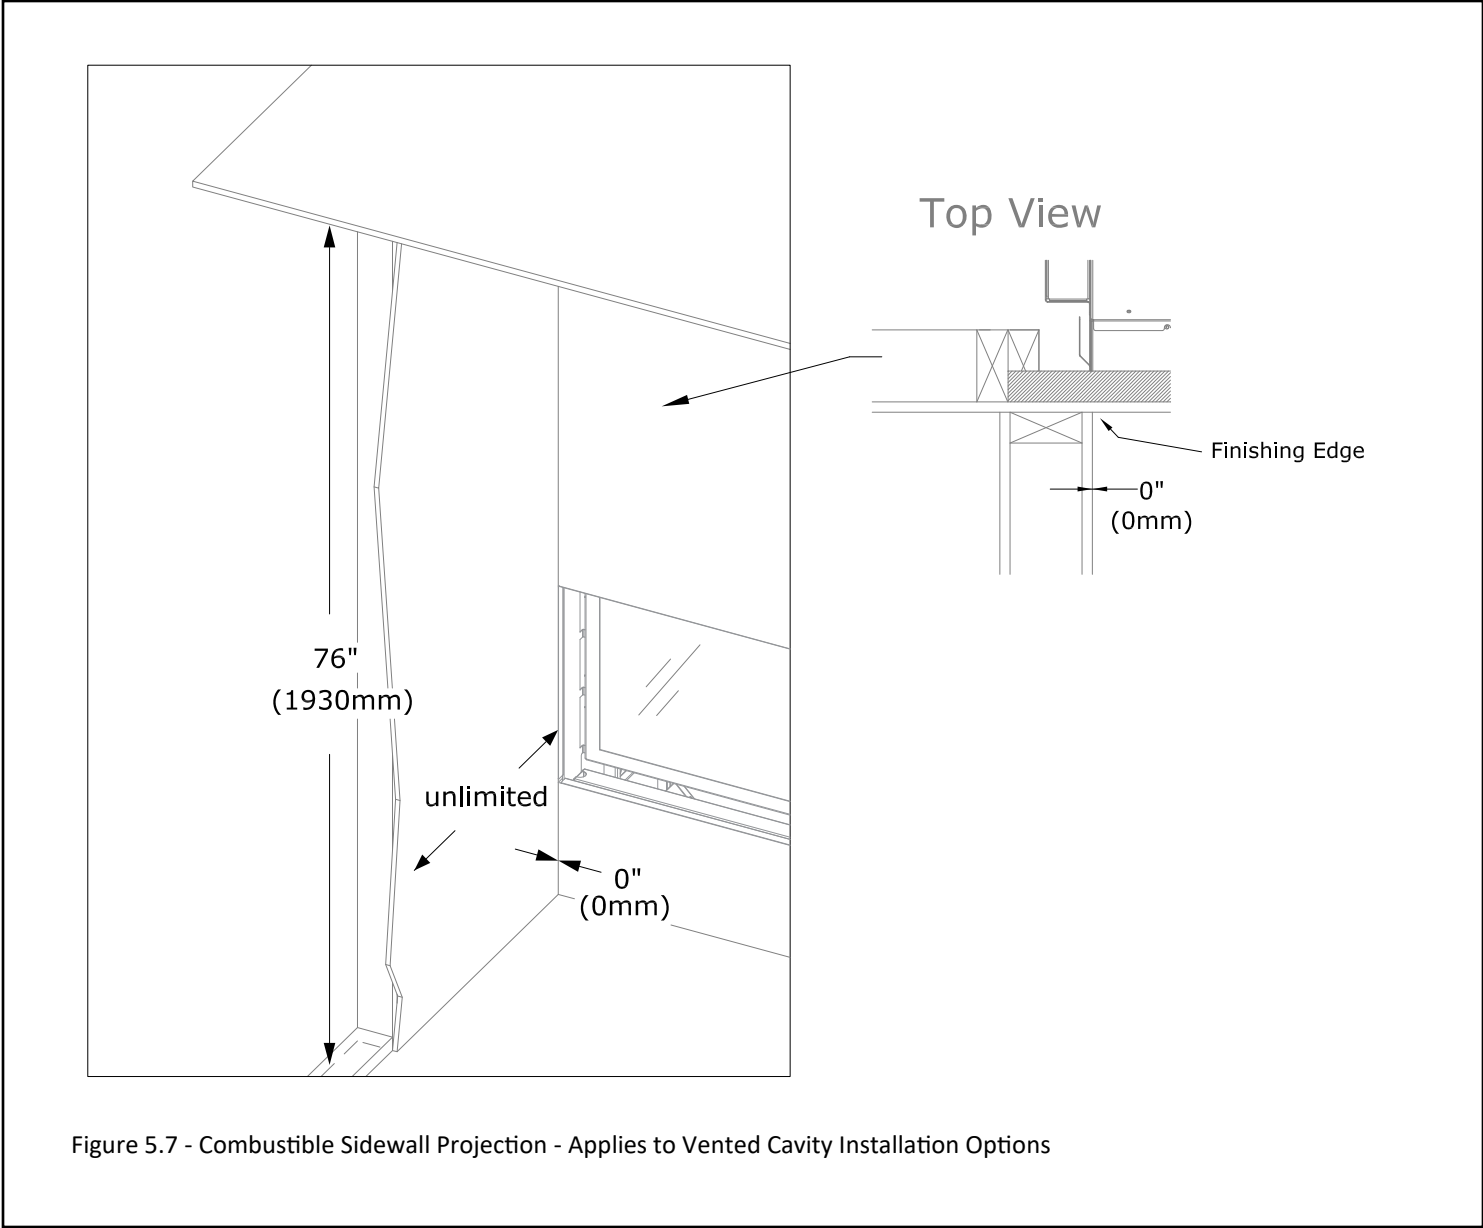

Figure 5.7 - Combustible Sidewall Projection - Applies to Vented Cavity Installation Options
- Mantel Leg: Follow "Combustible Sidewall Clearance" below. See FIGURE 5.7.
- Combustible Sidewall Clearance: The adjacent sidewall projection is unlimited and starts at 0" (0mm) from the side of the fireplace. See FIGURE 5.7.
Figure 5.7 shows an unlimited combustable sidewall flush from the side finishing edge of the fireplace.